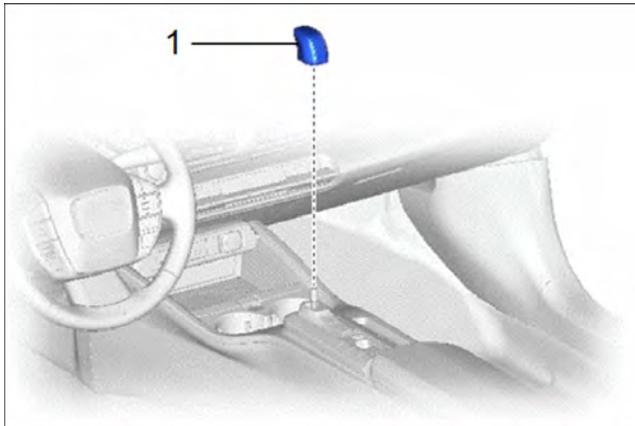

Figure 60
- (a) Turn the shift lever knob sub-assembly clockwise until it cannot be turned easily, as shown in Figure 60.